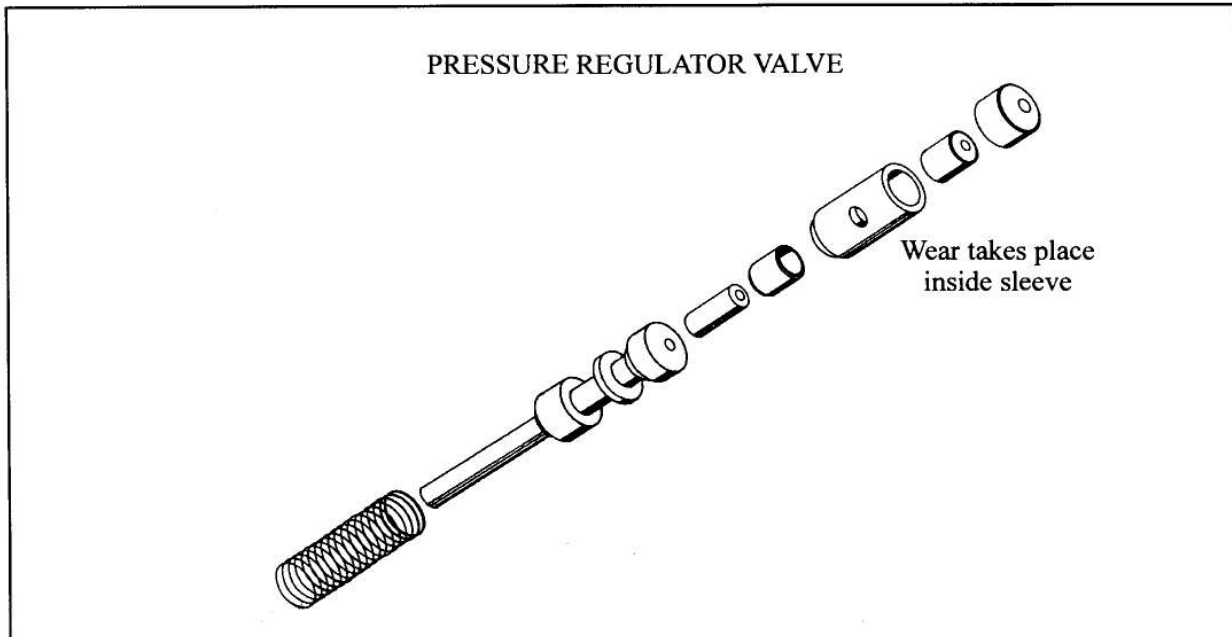

Figure 65
- Another cause of low CVI that is often overlooked is high line pressure. There are three predetermined line pressure settings in an A604 transaxle. First and second gears have 120 to 145 psi. Third and fourth have 75 to 95 psi, while reverse is calibrated to have 175 to 235 psi. The controller for the transaxle has no way of knowing or checking what the actual line pressure is in the transaxle. Therefore, the controller controls the solenoid pulse rate based on these predetermined line pressure settings. If a mechanical problem occurs in the valve body causing high line pressure, the controller will be pulsing a clutch on through a solenoid based on a lower value pressure. With line pressure being much higher than what the controller thinks it is, a higher volume of oil is allowed to pass through the solenoid which results in a below minimum CVI reading. One common cause for this is either a worn sleeve in the pressure regulator valve system or a stuck pressure regulator valve (See Figure 65). Both cross leaks and high line pressure problems causing the below minimum CVI values can be easily checked with a pressure gauge. For example, if you have a below minimum CVI value in the OD clutch circuit, attach a pressure gauge on the OD clutch tap. There should NOT be any pressure in that port in first and second gear. If there is, you have a cross leak. At the same time, when you shift into third and fourth, your OD clutch pressure should be 75 to 95 psi. If you have 110 psi or higher, you have a high line pressure problem most likely caused by a worn sleeve in the pressure regulator valve.